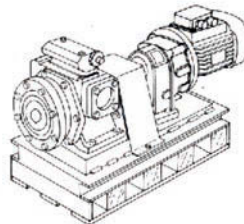

Fig. 2.3
- packaging on a pallet or with cardboard box is envisaged for domestic carriage (see figures 2.3 and 2.2).